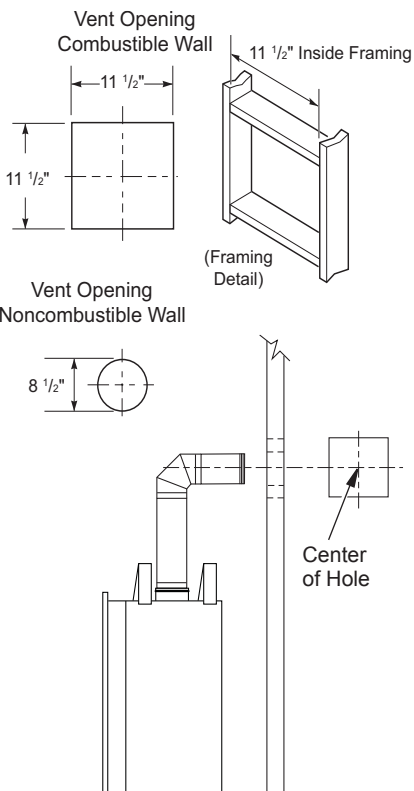

Figure 9 - Vent Opening Requirements
Center of hole should line up with center line of horizontal vent pipe. Mark wall for an 11 1/2" x 11 1/2" square hole. Cut and frame square hole in exterior wall where vent will be terminated. If wall being penetrated is constructed of noncombustible material, such as masonry block or concrete, a 8 1/2" hole with zero clearance is acceptable (see Figure 9).
3. Cut a hole in the roof using locating hole as a center point. (Cover any exposed open vent pipes before cutting hole in roof.) The 11 1/2" x 11 1/2" hole must be measured on the horizontal; actual length may be larger depending on pitch of roof. There must be a 1" clearance from vent pipe to combustible materials. Frame opening as shown in Figure 9, page 10.